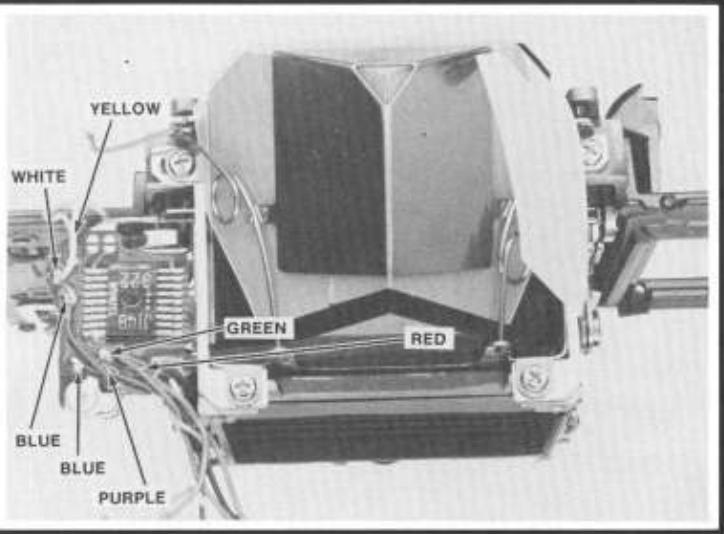
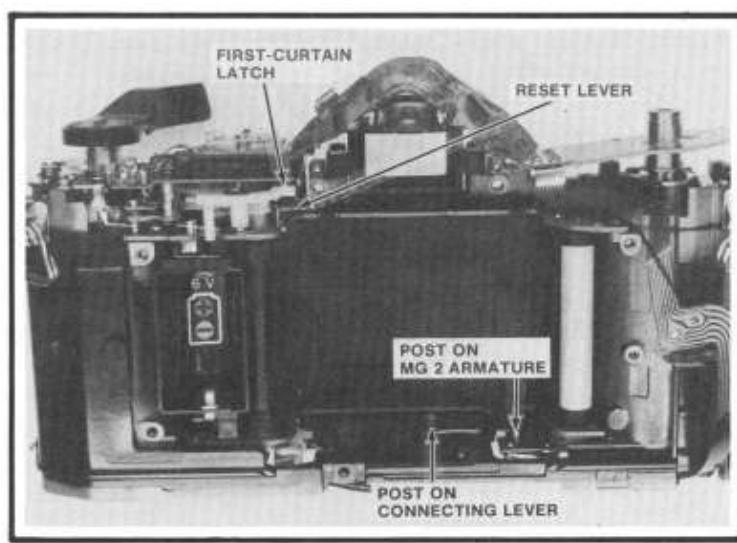
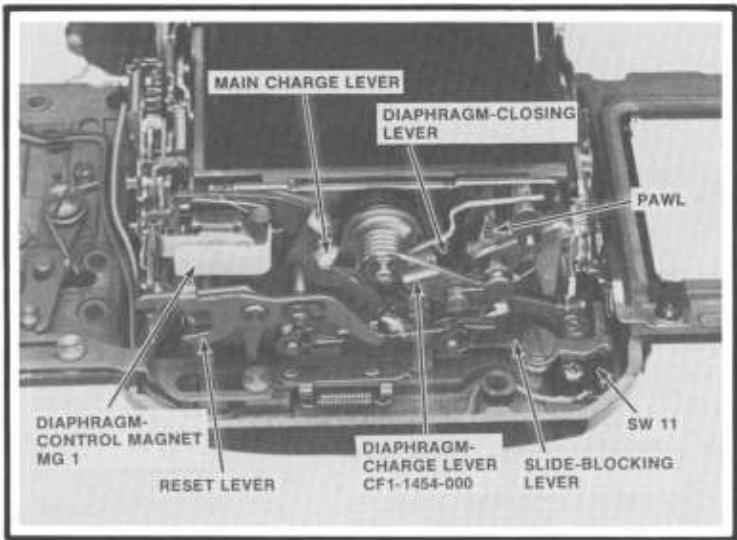
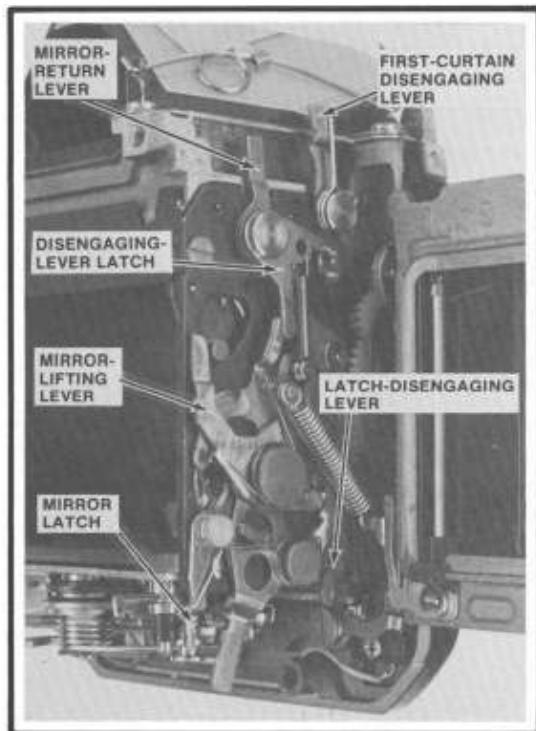

Figure 42
Figure 43
Figure 44
Figure 45
13. Open the battery compartment. Then, inserting your thumb into the battery compartment for a grip, lift out the front-plate/mirror-housing assembly, Fig. 42.
Note: It's possible to remove the front-plate/mirror-housing assembly without taking out the piezo beeper. However, it's difficult to seat the front-plate/mirror-housing assembly with the piezo beeper in place. Removing the beeper also prevents possible damage to the LED display board, Fig. 42.
1. Make sure the shutter is in the released position. To release the shutter, push the first-curtain latch, Fig. 43, toward the back of the camera.
5. As you seat the mirror assembly, pass the wires, Fig. 42, under the film-speed base plate, Fig. 43. The ends of the wires should be accessible at the back of the camera.
The mirror operation is nearly identical to that in other A-series Canons. Cock the mirror by pushing the main charge lever, Fig. 44, in a counterclockwise direction. The MG1 armature now moves against the core of the diaphragm-control magnet.
Release the mirror by pushing the U-shaped end of the reset lever, Fig. 44, toward the front of the mirror assembly. A spring now drives the diaphragm-charge lever, Fig. 44, counterclockwise. The end of the diaphragm-charge lever moves away from the end of the mirror-lifting lever and strikes the mirror latch, Fig. 45.
Disengaging the mirror latch allows the mirror-lifting spring, Fig. 45, to pull the mirror-lifting lever in a clockwise direction. An arm on the mirror-lifting lever comes against a post on the mirror bracket, driving the mirror to the raised position.
The diaphragm-charge lever also operates the diaphragm-closing lever, Fig. 44. A pawl on the diaphragm-charge lever engages the tab on the diaphragm-closing lever. As the diaphragm-closing lever rotates counterclockwise, the pawl carries the diaphragm-closing lever in the same direction. The end of the diaphragm-closing lever, passing through the lens mount, allows the lens diaphragm to stop down.
To return the mirror and reopen the diaphragm, push forward the mirror-return lever, Fig. 45. The mirror-lifting lever now moves counterclockwise—away from the post on
Pushing forward the mirror-return lever disengages the lifting-lever latch to free the mirror-lifting lever. The latch-disengaging lever that disengages the lifting-lever latch also disengages the pawl from the diaphragm-closing lever. Note that the lower end of the latch-disengaging lever, Fig. 45, comes against the pawl-disengaging lever. The pawl-disengaging lever pulls the pawl out of engagement with the tab on the diaphragm-closing lever, allowing the lens diaphragm to reopen.
In normal operation, the connecting-lever post, Fig. 43, charges the mirror. The post comes against the curved end of the main charge lever. A post on the MG2 armature, Fig. 43, strikes the U-shaped end of the reset lever to release the mirror.
The mirror then rises and releases the first curtain. An arm on the mirror-lifting-lever assembly strikes the disengaging-lever latch, Fig. 45. The first-curtain disengaging lever then moves toward the shutter and strikes the first-curtain latch, Fig. 43.
With the mirror housing removed, however, the first-curtain disengaging lever doesn't move. That's because the shutter must first charge the first-curtain disengaging lever. During the cocking stroke, the reset lever in the shutter, Fig. 43, pushes the first-curtain disengaging lever forward—until the first-curtain disengaging lever is latched by the disengaging-lever latch.
The S.AVE contact only controls the diaphragm closure when the lens is at the auto setting. At auto, the pin at the back of the lens pushes in the EM change pin in the lens mount. The EM change pin then opens SW11, the auto/manual switch, Fig. 44.
Also, the EM change pin moves the slide-blocking lever, Fig. 44, into the path of the stop-down slide. The slide-blocking lever prevents you from using the depth-of-field preview on auto. To use the depth-of-field preview, you must first set a manual f/stop.
As in other A-series Canons, the three panels—the mirror mechanism, the AE unit, and the auto-diaphragm unit—attach to the sides of the mirror housing. You can remove the mirror mechanism, Fig. 45, individually. But remove the AE unit and the auto-diaphragm unit together.
2. Seat the mirror mechanism. Make sure the mirror latch sits behind the arm of the diaphragm-charge lever, Fig. 45. Also position the latch-disengaging lever behind the end of the pawl-disengaging lever, Fig. 45. Replace the three mirror-mechanism screws.
1. Unsolder the blue wire from the LED circuit board, Fig. 42.